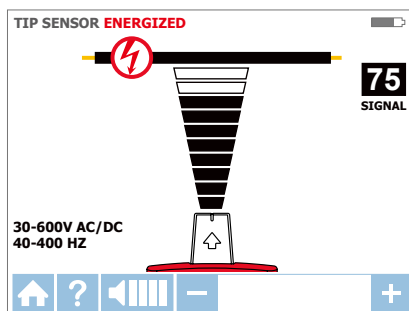

Figure 3.1g: Receiver screen showing signal detected in Energized TIP SENSOR mode
4. Scan target area with Tip Sensor to find highest signal level (Figure 3.1g). While tracing, periodically adjust sensitivity to keep signal strength near 75. Increase or decrease sensitivity by pressing + or – on the keypad. If signal is too strong for precise locating, change transmitter to LOW mode.